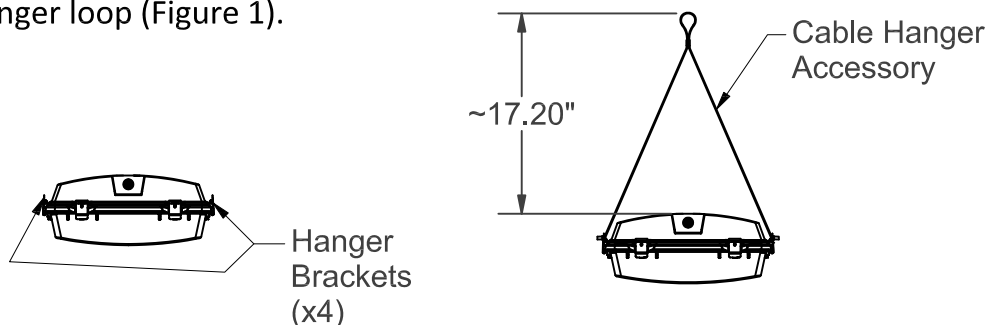

FIGURE 1
2. Attach suspension cable to fixture hanger brackets (Figure 1).
3. If using the Cable Hanger Accessory, attach each leg to a fixture hanger bracket and attach the suspension cable to the hanger loop (Figure 1).